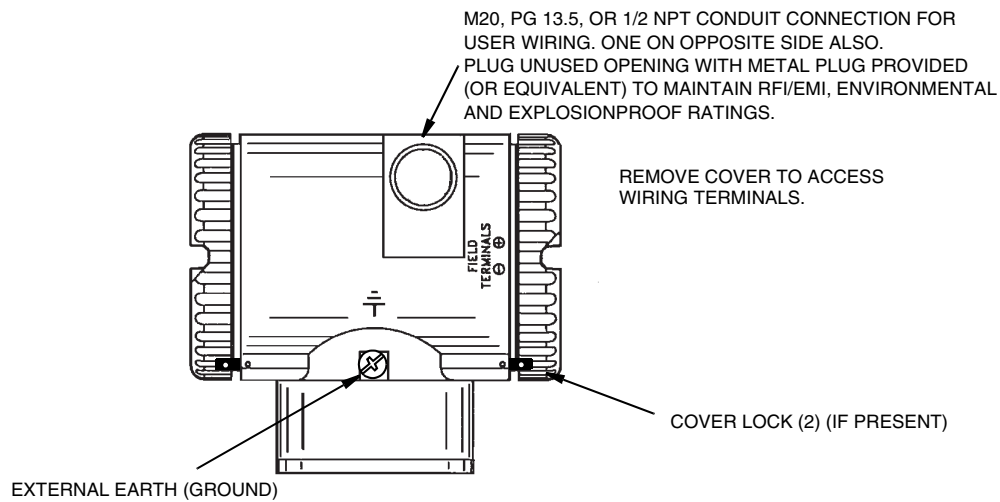
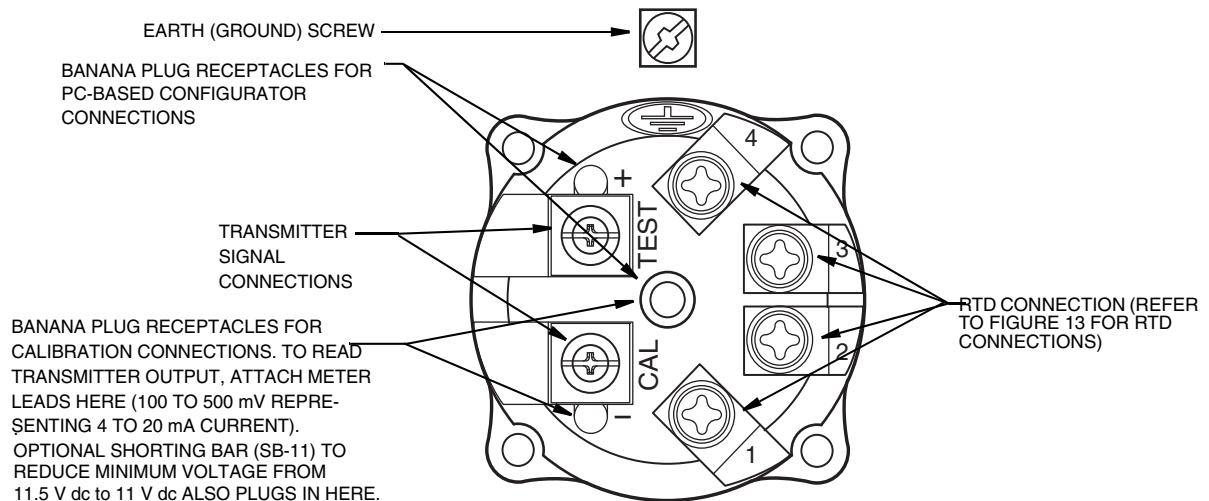
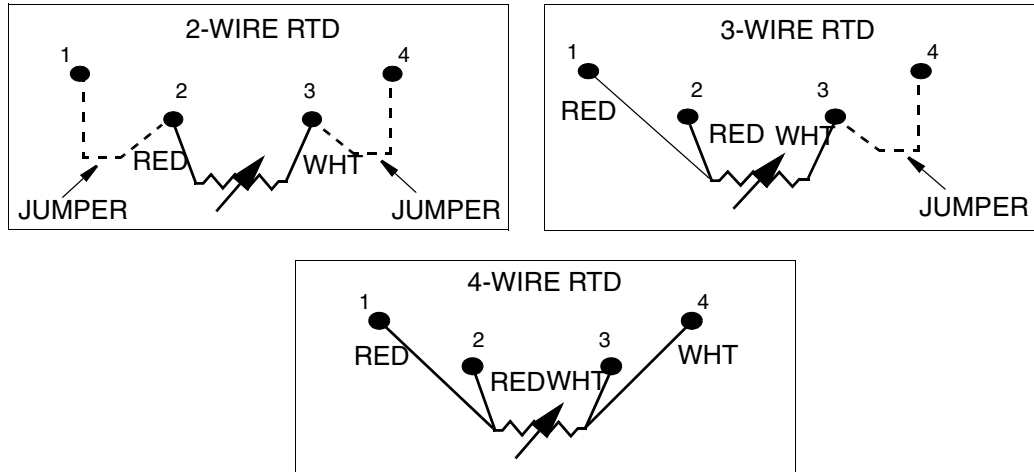

Figure 7. Accessing Field Terminals
Figure 8. Identification of Field Terminals
Figure 13. RTD Wiring
Electronic housing cover locks, shown in Figure 7, are provided as standard with certain agency certifications and as part of the Custody Transfer Lock and Seal option. To lock the covers, unscrew the locking pin until approximately 6 mm (0.25 in) shows, lining up the hole in the pin with the hole in the housing. Insert the seal wire through the two holes, slide the seal onto the wire ends and crimp the seal.
For access to the field terminals, thread the cover lock (if present) into the housing to clear the threaded cover and remove the cover from the field terminals compartment as shown in Figure 7. Note that the embossed letters **FIELD TERMINALS** identify the proper compartment. Identification of terminals is shown in Figure 8.
2. Run signal wires (0.50 mm² or 20 AWG, typical) through one of the transmitter conduit connections as shown in Figure 7. Use twisted pair to protect the 4 to 20 mA output and/or remote communications from electrical noise. Maximum recommended length for signal wires is 3050 m (10000 ft)
6. Connect the power supply and receiver loop wires to the “+” and “-” terminal connections shown in Figure 8.
5. Connect an earth (ground) wire to the earth terminal in accordance with local practice. Ground terminal is shown in Figure 8.
6. Connect the signal wires to the transmitter “+” and “-” terminal connections shown in Figure 8.
7. The HART Communicator or PC-Based Configurator can be connected via banana plugs to the top two receptacles (designated TEST) on the terminal block in the field terminal compartment as shown in Figure 8 or any other convenient location in the loop (subject to hazardous location restrictions).
Connect your RTD to terminals 1, 2, 3 and 4. Locations are shown in Figure 8. Wire per Figure 13.